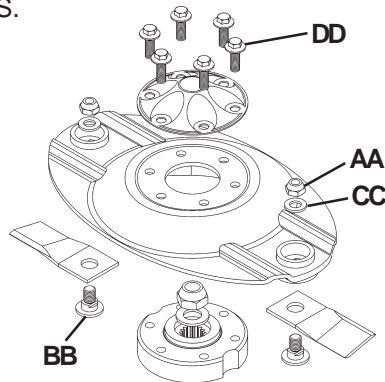
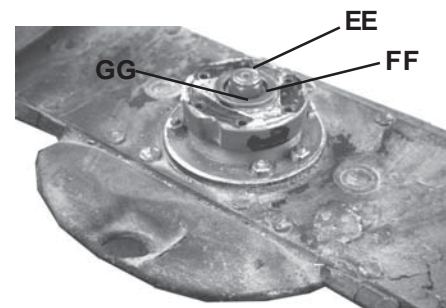

Figure 1
Figure 3
Worn, bent or blunt blades will require more power. To cut efficiently replace worn or damaged blades as soon as possible. To replace the blade, remove the Self-locking-Nut (AA), Spring Washer (CC) remove the Blade Bolt (BB). Check the condition of the bolt and nut. If either are damaged, replace with new parts. The self-locking nut must be replaced after being removed three times due to reduced grip on the bolt threads. Torque the blade bolt to 48 FT-LBS. (See **Figure 1**.)
To remove the disc, remove the 6 bolts (DD)(See **Figure 1**). To remove the hub (EE), remove the locknut (FF) and the conical washer (GG). Pull the hub upward evenly to remove. Gearpullers may be required to remove hub from spline shaft. **See Figure 3**
Make sure the Conical Spring Washer (EE) is placed on the shaft before the disc retaining nut is installed. Place the washer on the shaft with the center up. Install the Self-Locking Nut (FF) on the shaft and torque the nut to 200 FT-lbs. (See **Figure 3**.) Replace Self-Locking Nut (FF) and washer each time it is removed.